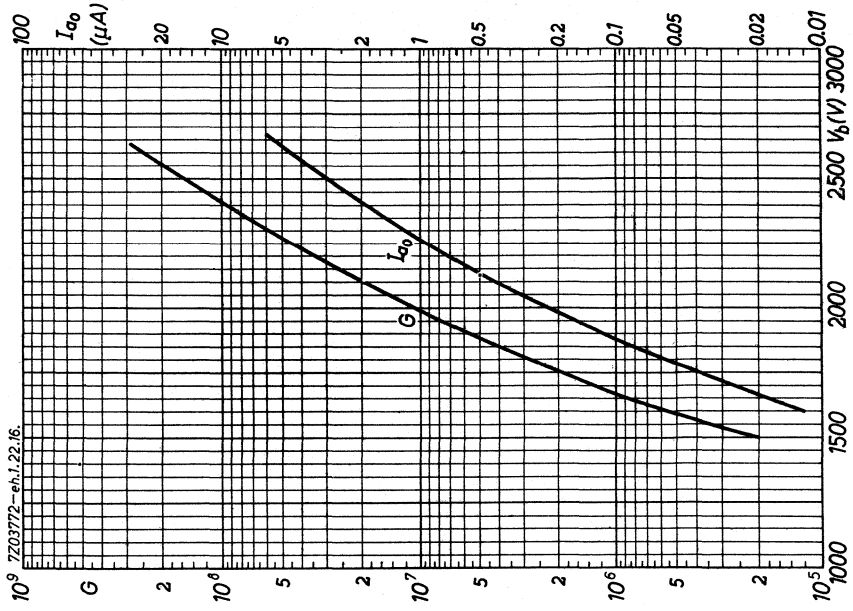

Fig.1
B. The multiplier system consists of 14 stages, providing a total current amplification of 10^8 at about 2400 V (see fig.1). The tube is capable of producing very strong peak currents (up to 1 A). Actually, the time constant at the output of the multiplier must be very small. Therefore it is necessary, taking into account the parasitic capacitances, to use a low load resistance. It is advisable to use a resistance-matched coaxial cable (e.g. 75 or 100 Ω). With this load the tube easily delivers pulses of tens of volts, so that an amplifier is rendered superfluous.